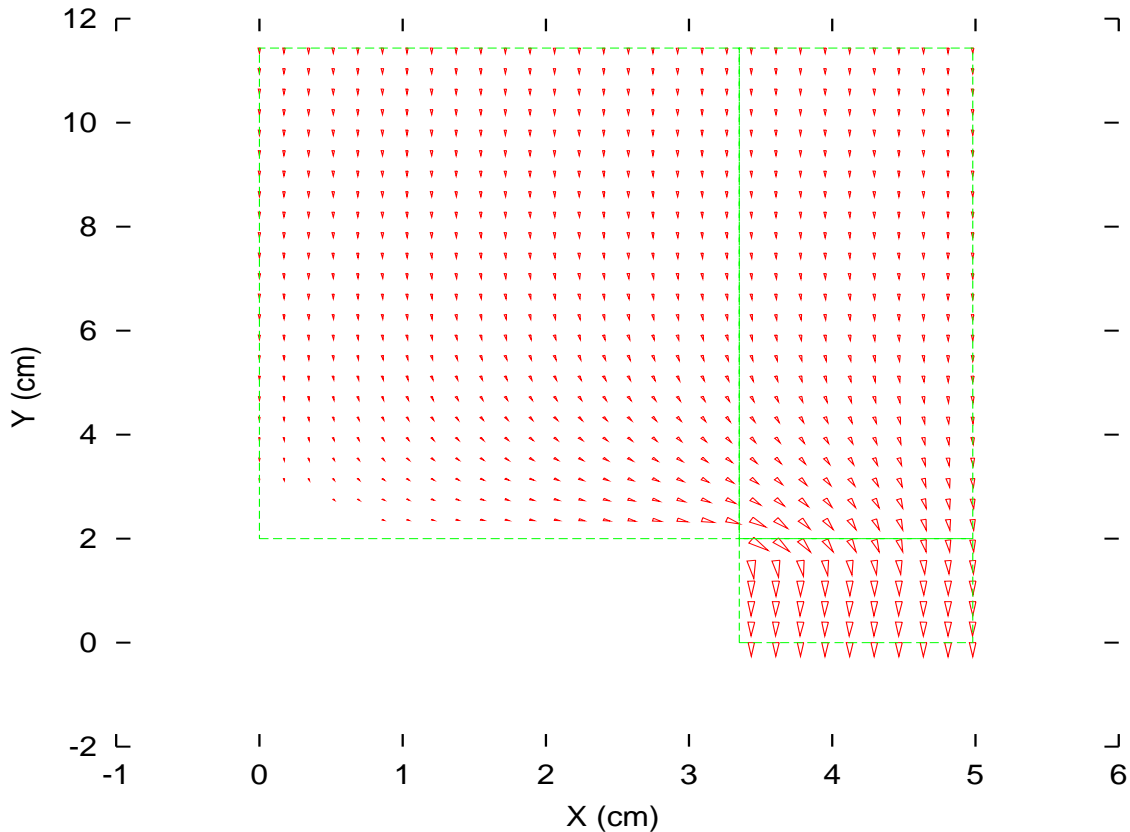

Figure 6: Simulated convection flow distribution in a vertical reactor with cylindrical symmetry axis on the left.
- 6) Convection flow distribution can be simulated in a vertical reactor (with cylindrical symmetry) as shown in Figure 6